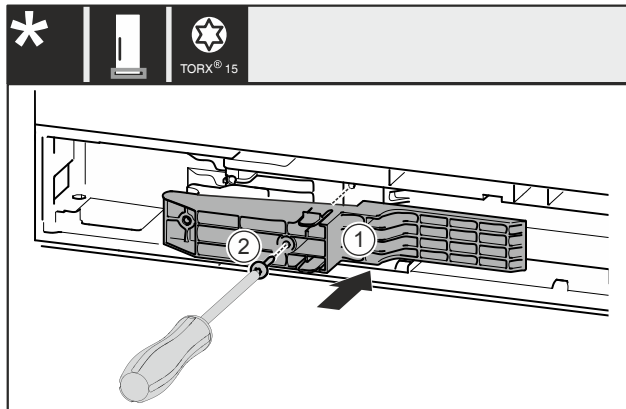

Fig. 41 \*
- ▶ Insert the adapter piece Fig. 41 (1) on the handle side into the recess.\*
- ▶ Tighten the screw Fig. 41 (2) with the screwdriver.\*